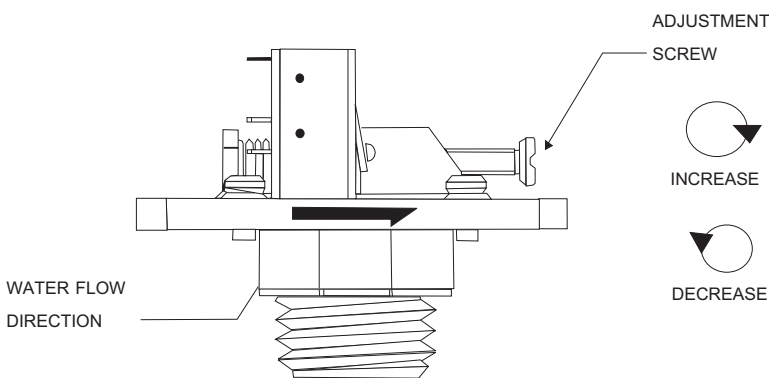

Fig. 2 . Paddle Tension Adjustment System
Paddle tension to suit flow can be changed by adjusting the setting screw as shown in figure 2.
- # Care must be taken to properly orient the device for the direction of flow (fig. 2)